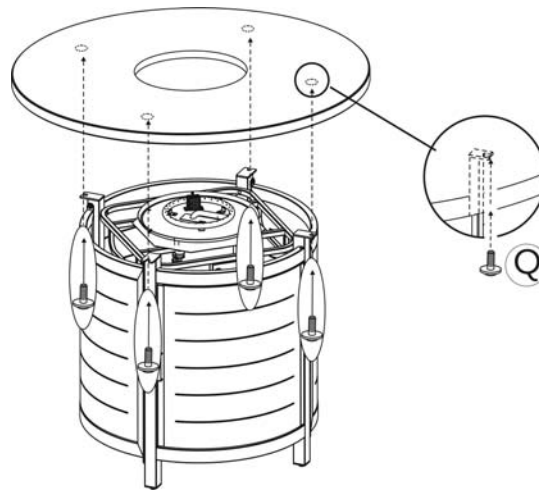

Figure 6
6. Place the fire pit table top onto the fire pit base. Secure the table top to the fire pit base by using the 1/4" x 20 mm bolts with large washers that are provided. See Figure 6.